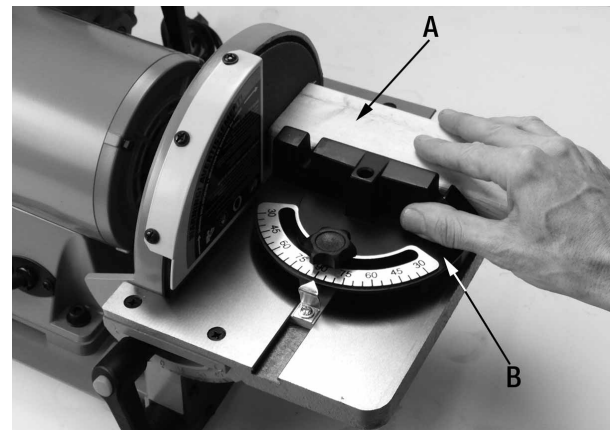

Figure 19
When sanding, always position your workpiece (A) Fig.19 on the downward, rotating side (right side) of the sanding disc as shown. Sanding on the left side of the sanding disc, upward rotating side is dangerous, as your workpiece cannot be controlled and 'kick-back' may occur - the wood being forced up and out of your hands.
Use the miter gauge (B) Fig.19 for added control of the work piece during sanding. The miter gauge can also be set to various degree angles for maintaining accurate angles when sanding small or multiple parts.